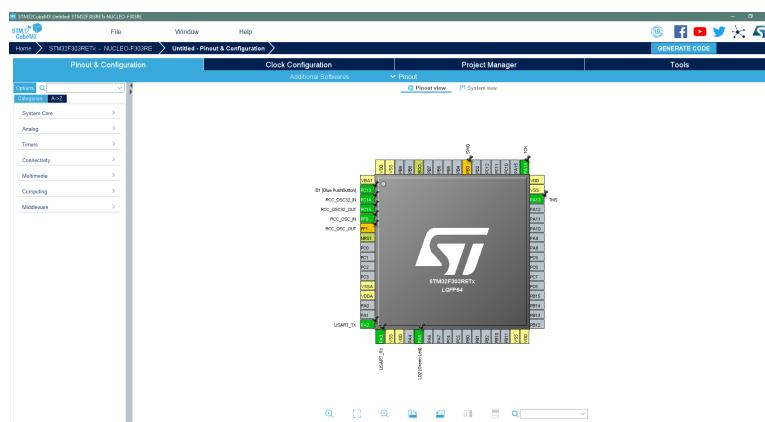
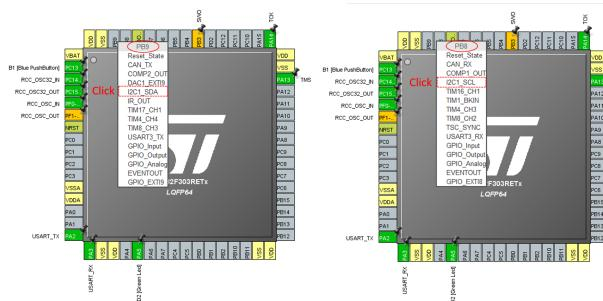

Figure 3.3: Graphical interface of the wanted chip [3].
Figure 3.4: Choose the functions of the pins [3].
- Then, you arrive on the graphical interface of the chip used in the section *Pinout & Configuration*. Various tabs are available as you can see on the fig. 3.3 ;
- We notice that some pins on the figure 3.3 have different colors. The green color indicates that the pin is used and that the function used is activated. For example, the *PA5* pin is used to control the LED on the map. The orange colored pins indicate that the pins are reserved for certain functions but that these functions are not activated. In order to configure a function of a pin, take for example the *PB8* and *PB9* pin. Let's click on it to display all the functions available via these pins. In order to select a click on the desired function, in this case we want to control an I2C, choose functions framed red dotted on the fig. 3.4 ;